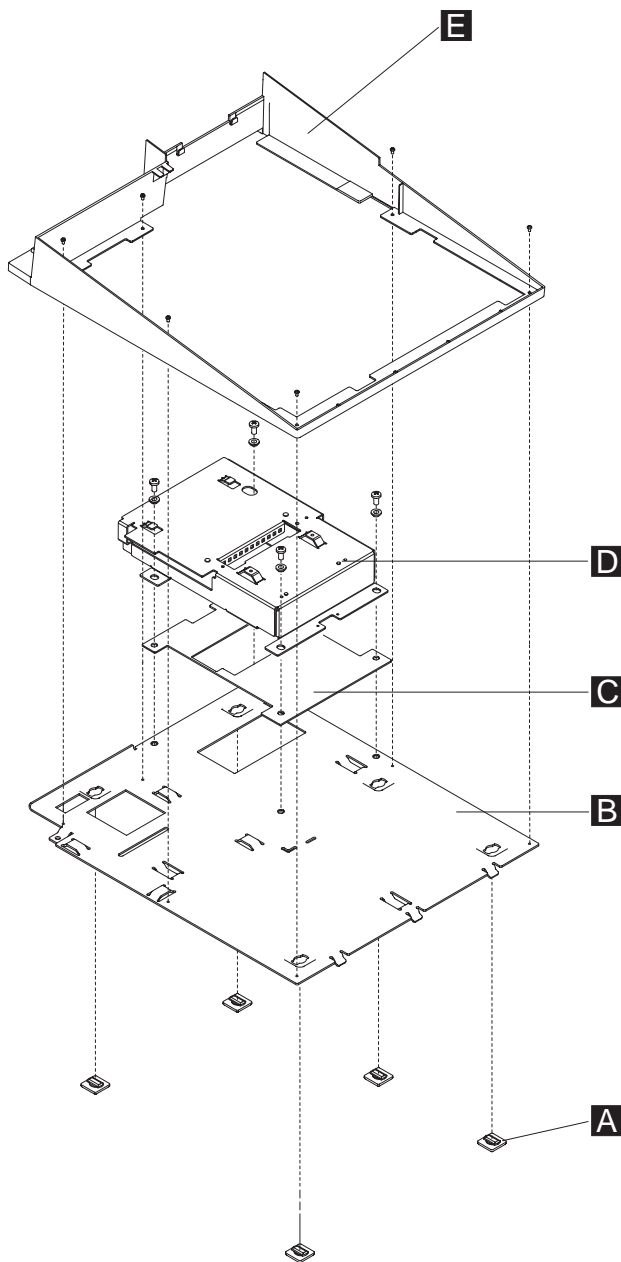

Figure 37. Countertop keyboard-integration tray assembly
2. For a free-standing unit, ensure that the four rubber feet **A** are installed on the bottom of the countertop keyboard integration tray (as shown in Figure 37 on page 54).
- a. Remove the fence **E** from the countertop keyboard-integration tray by removing the screws as shown in Figure 37 on page 54.
- c. Remove the rubber feet **A** located on the bottom of the integration tray. See Figure 37 on page 54 for location of feet.